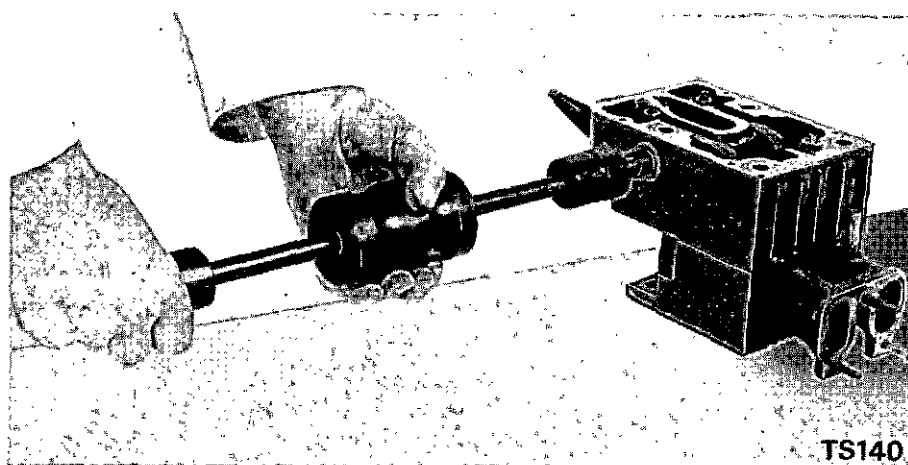

Fig. 148 Stub Shaft Tool
**STUB SHAFT TOOL (Fig. 148)****To remove stub shaft**